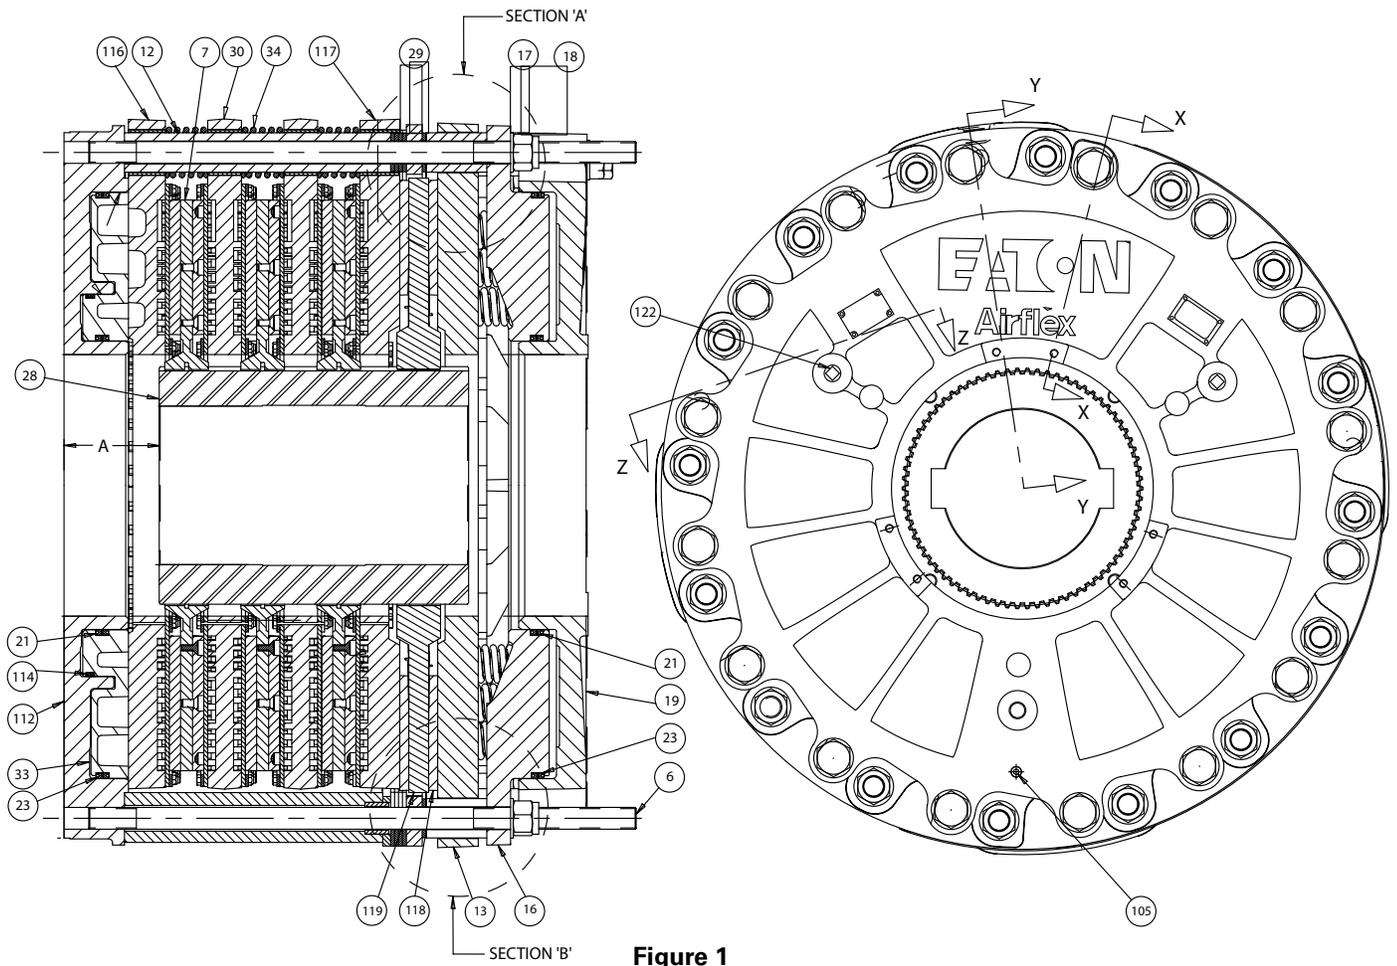

Figure 1
Item Description for Figure 1
- 1.2.1 Referring to Figure 1 and Table 1, the gear (28) is mounted on the shaft which is to be stopped and the tensioner assembly is attached to the machine frame.
The air applied pistons in the tensioner are available in either single or dual piston designs. The WCSB3 dual piston/cylinder (112) power head offers precise tensioning control by dividing the piston/cylinder into inner and outer sections (See Figure 1). This provides the ability to improve fine modulation of clamping pressure on the tensioner discs and improved control over our standard single chamber design. For very light tensioning loads, the outer piston can be used solely, with no pressure applied to the inner piston. For the largest tensioning loads, both pistons can be used together. If it is desirable to operate the tensioner at maximum tensioning load and not utilize the precise tensioning feature, the tensioner can be ordered without the intermediate piston seal (114).
- 2.1.6 Refer to Table 3 for the setup dimension between the tensioner mounting surface and the end of the gear (dimension "A" on Figure 1). Gears should be positioned to ensure that - when the tensioner is mounted - the disc splines will not overhang the end of the gear when components are in both new and worn conditions. The gear (28) is typically bored and keyed for a resulting Class FN2S interference fit for inch shafting and ISO System S7h6 for metric shafting. Contact Airflex Application Engineering for specific recommendations.
"A" Dimension on Figure 1, inches (mm)